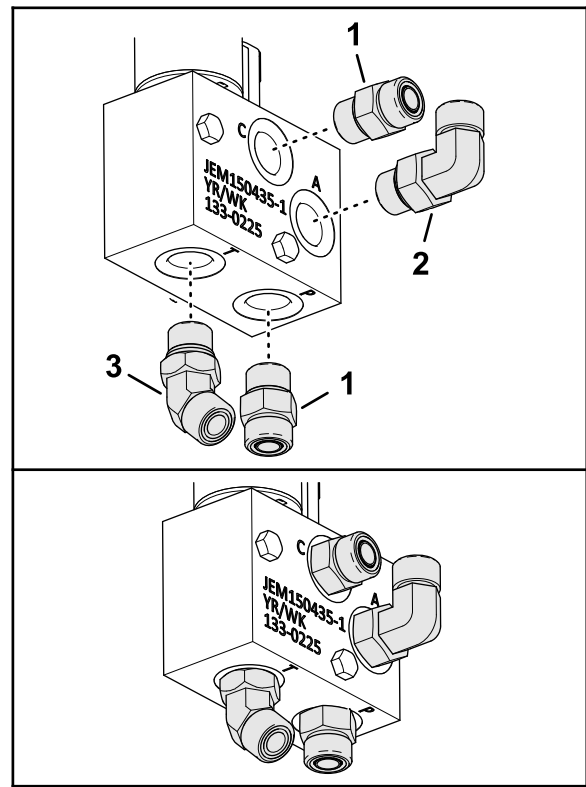

Figure 12
3. Assemble straight fittings port-C and port-P of the low-flow valve (Figure 12).
4. Align the fitting is 45° and 90° fittings as shown in Figure 12.
1. Assemble a 90° fitting into port-A of the low-flow valve (Figure 12).